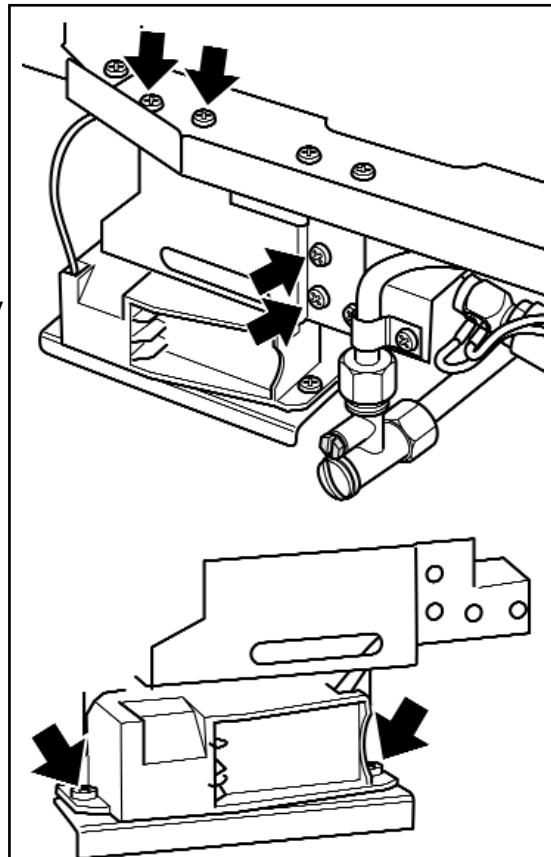

Figure 42. Removal of electronic generator
4. Unscrew the four support bracket screws (See figure 42). The generator and its support bracket can now be moved forward. Be careful not to apply tension to the microswitch leads.
5. Remove the two fixing screws that attach the generator unit to the support bracket. The igniter generator can now be removed (See figure 42)